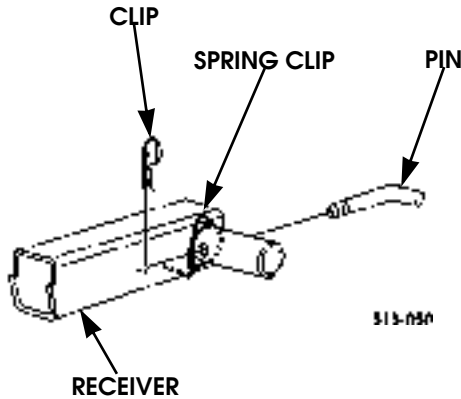

Figure 13-46: Receiver
1. Remove two clips and pins securing the right and left curved tubes to the receiver (Figures 13-46 and 13-47).
- Position two spring clips on receiver. Ensure the spring clips are positioned 180 degrees from each other (Figure 13-46).